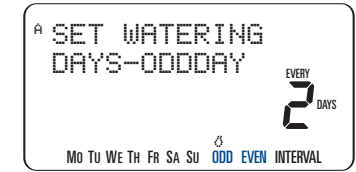

Figure 9: Selecting "Odd/Even Watering"
- Press **NEXT** until "ODD" flashes on the display. If you wish to water every odd day, press **ENTER** to confirm the programming. [See Figure 9]